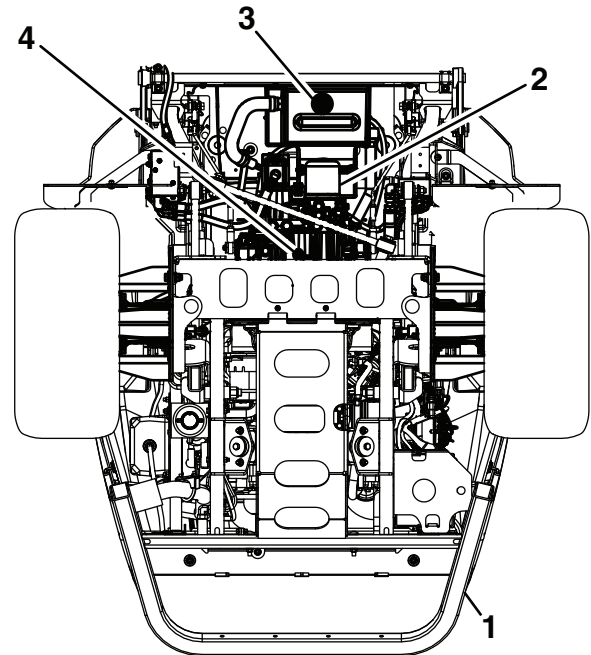

Figure 70
4. Place a large drain pan under the hydraulic reservoir and transmission case (Figure 70).